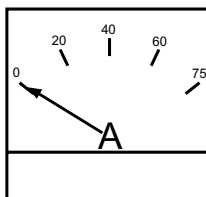

Figure 41. Ammeter (No Load)
11. The ammeter (Figure 41) will indicate zero amps with no load applied. When a load is applied, this meter will indicate the amount of current that the load is drawing from the generator's alternator.